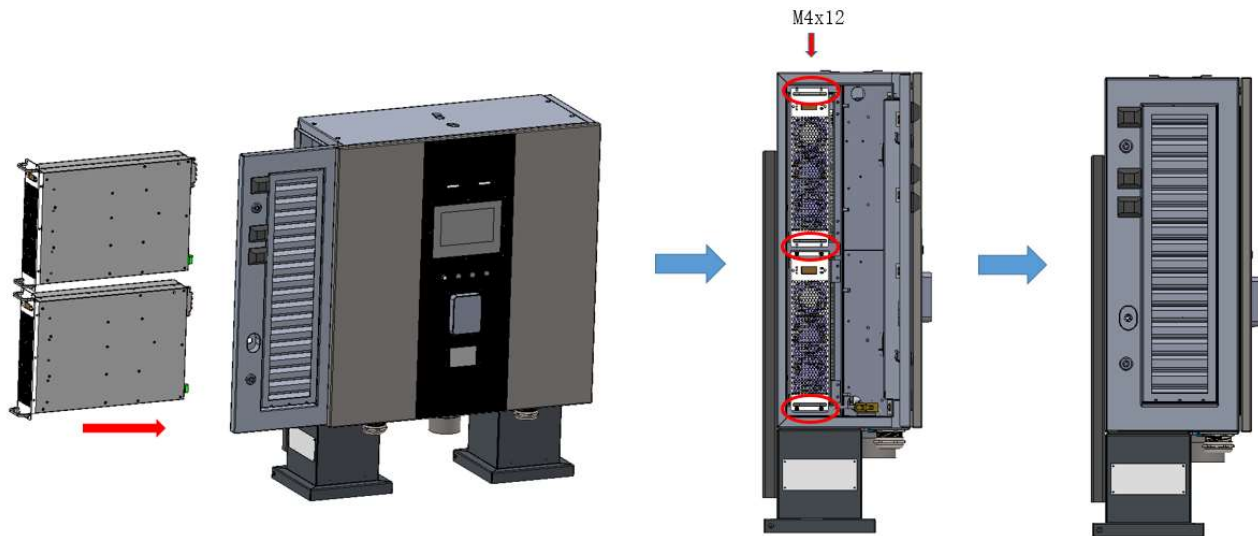

Figure 12 Charging module installation
(5) Open the left door, put the charging modules into the charger main body, and tighten the four screws (M4 × 12). Then close the left door, as shown in Figure 12.